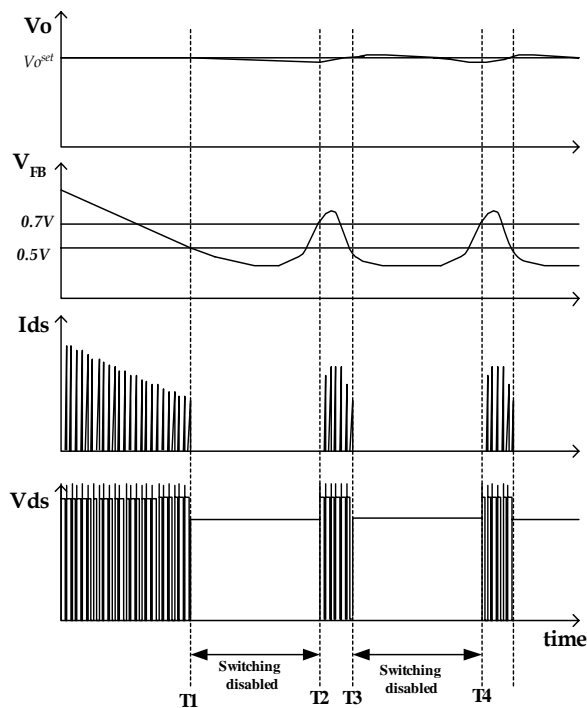

Figure 8. Waveforms of burst operation
5. Burst operation : In order to minimize power dissipation in standby mode, the FSDM0565RB enters burst mode operation. As the load decreases, the feedback voltage decreases. As shown in Figure 8, the device automatically enters burst mode when the feedback voltage drops below $V_{BURL}(500mV)$. At this point switching stops and the output voltages start to drop at a rate dependent on standby current load. This causes the feedback voltage to rise. Once it passes $V_{BURH}(700mV)$ switching resumes. The feedback voltage then falls and the process repeats. Burst mode operation alternately enables and disables switching of the power Sense FET thereby reducing switching loss in Standby mode.